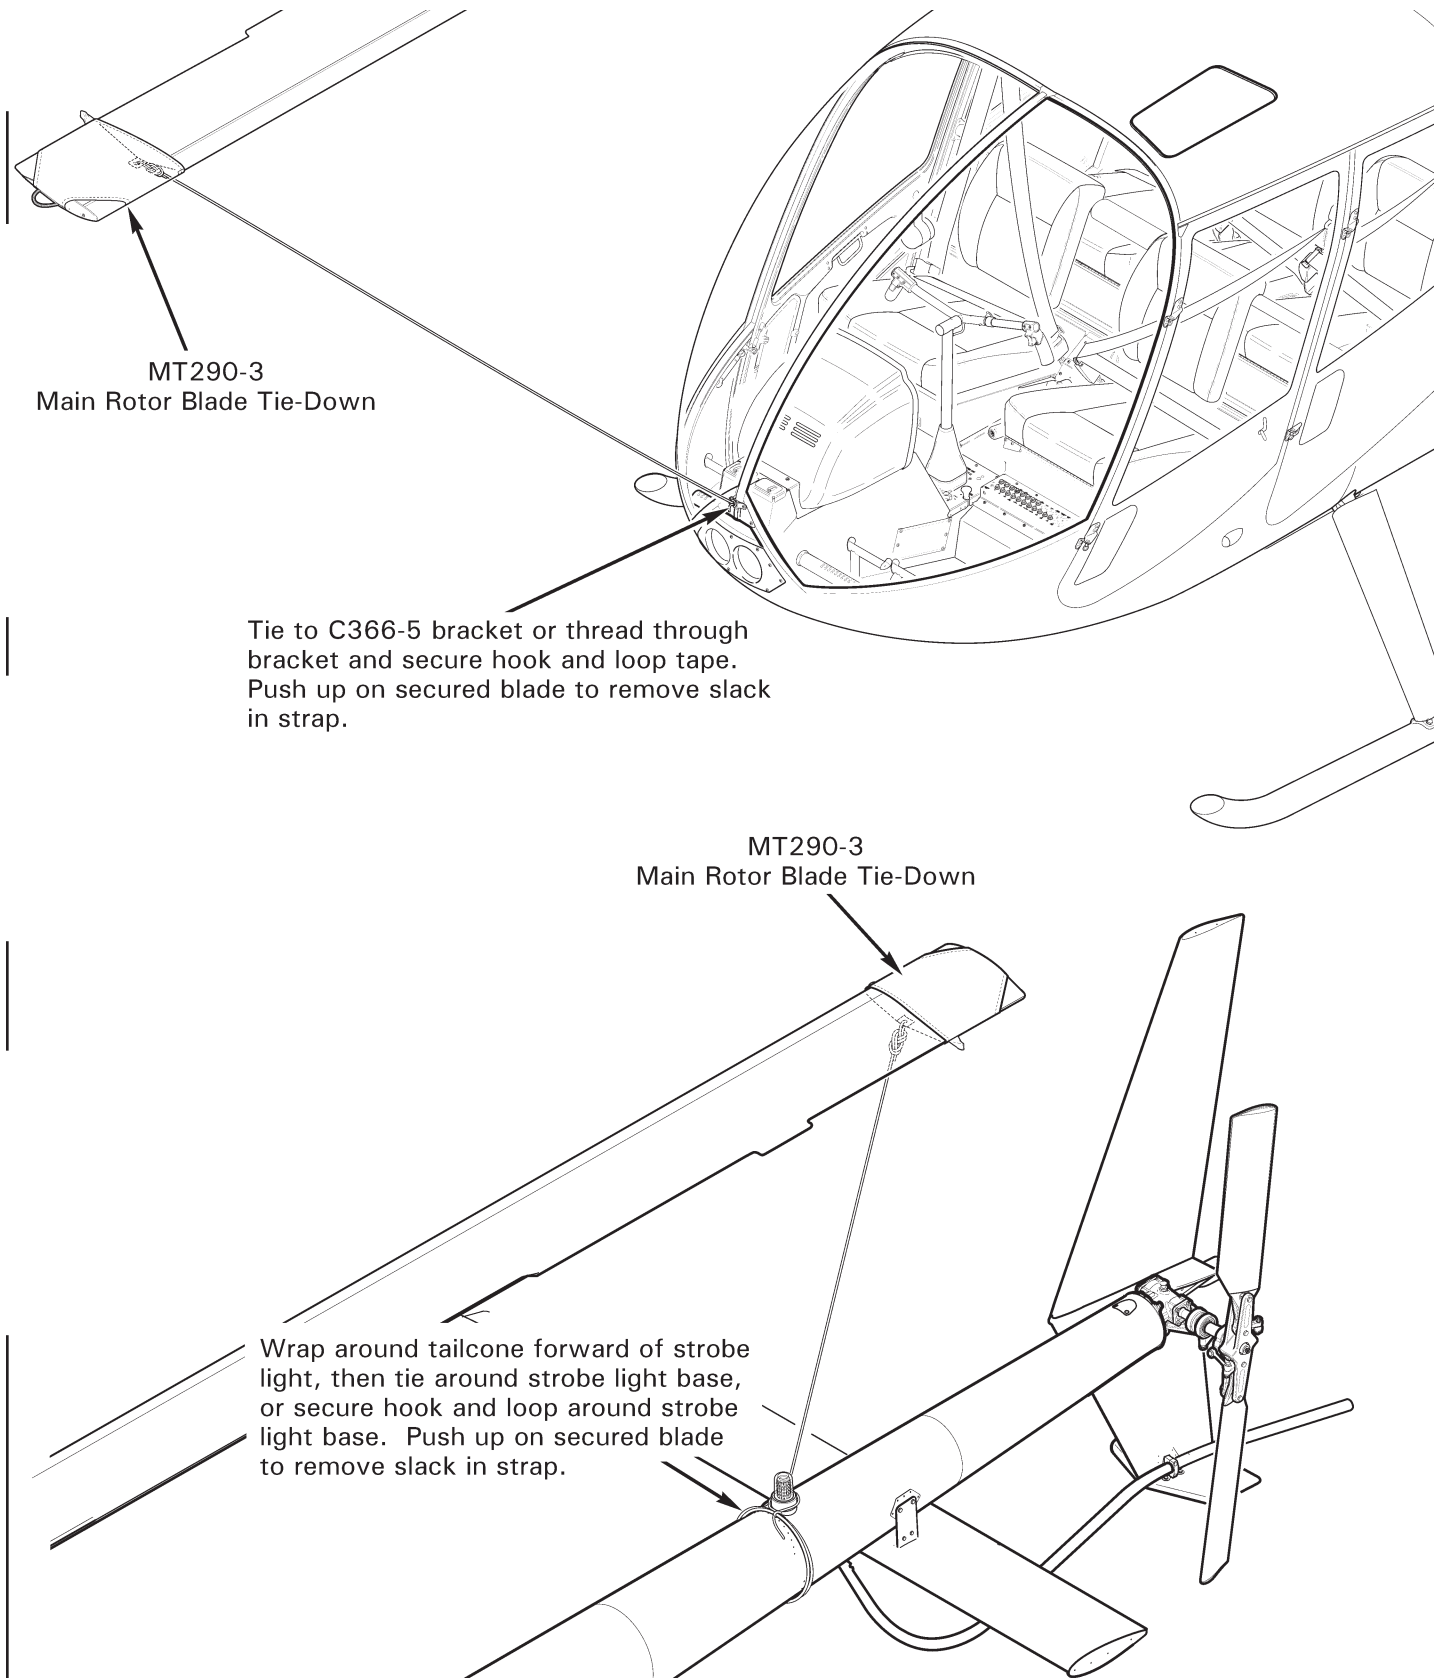

FIGURE 10-1 MAIN ROTOR BLADE TIE-DOWNS
2. Refer to Figure 10-1. Slide MT290-3 tie-down jacket over forward (lowered) main rotor blade tip, with white lettering facing down. Tie strap to C366-5 bracket or thread strap through bracket and secure tie-down hook and loop tape. Push up on secured blade to remove slack in tie-down strap.